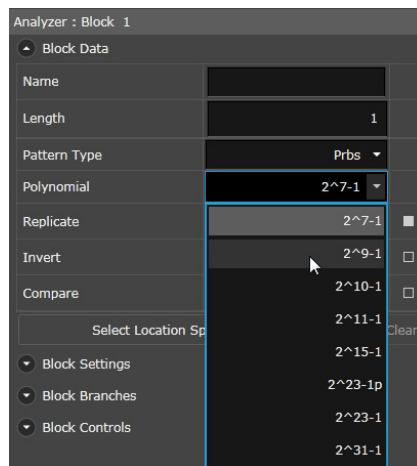

Figure 40 Select Polynomial
- b In the **Block Data** properties, select **2⁹- 1** as the **Polynomial** as shown in Figure 40 on page -91.